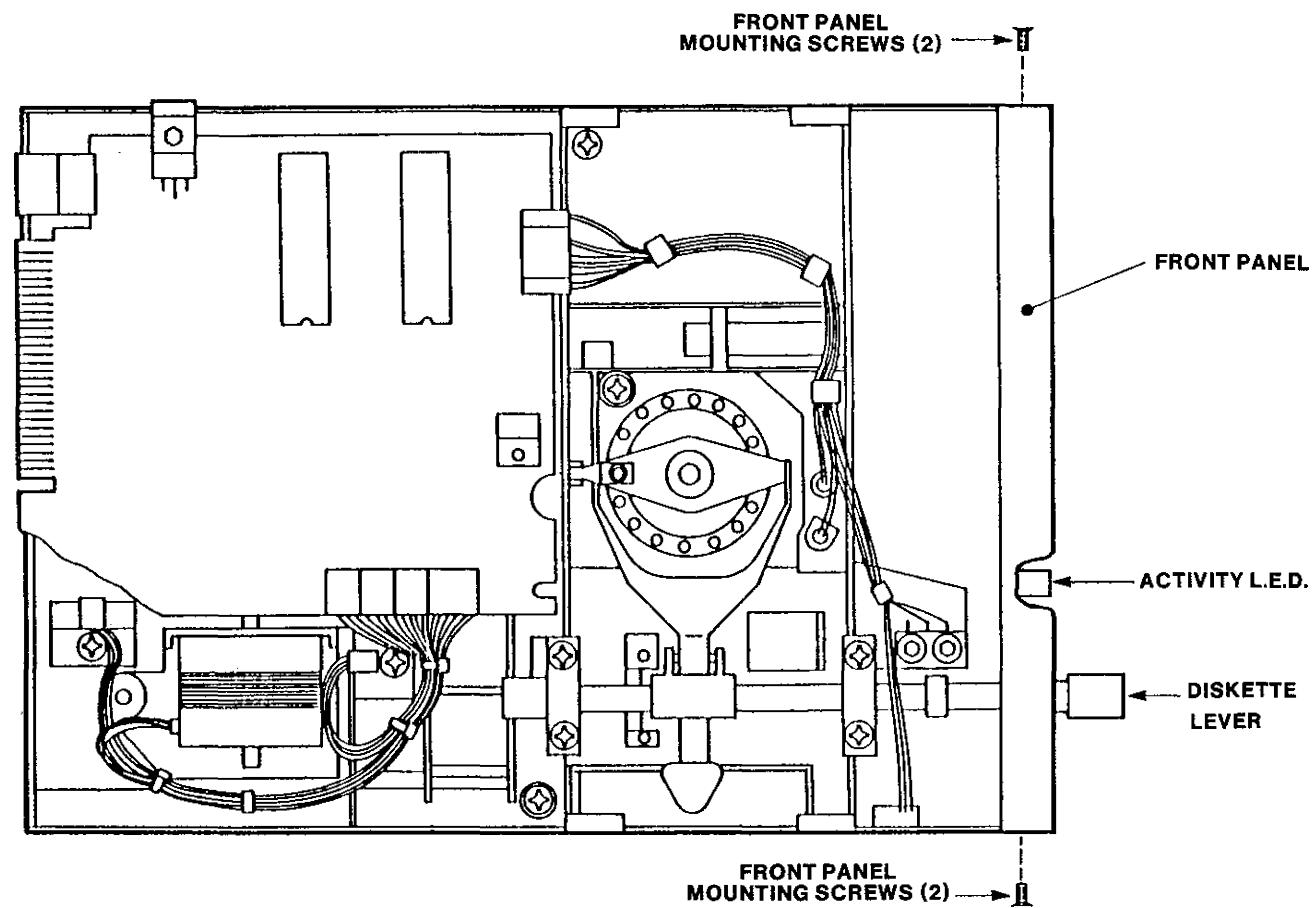

FIGURE 6-5
2. Remove the four mounting screws, two on each side, that attach the front panel to the chassis (Figure 6-5).